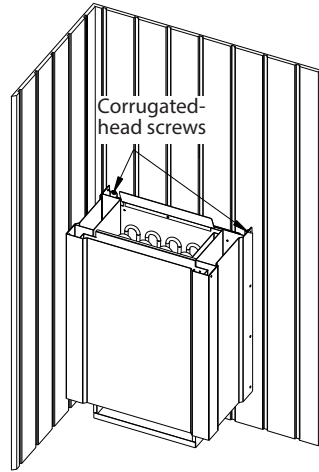
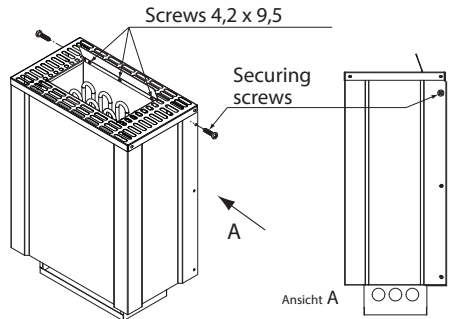

Fig. 5
Fig. 6
7. Secure the heater on the sauna wall behind it using 2 screws through the holes in the rear upper edge of the heater (see fig. 5) or alternatively secure it to the side wall, as shown on fig. 6.